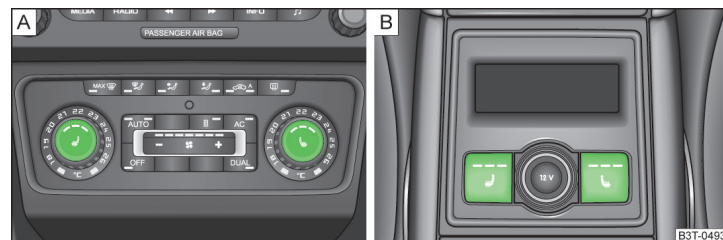

Fig. 71 Heating: Front seats/ rear seats
- › Press the controller in the area of the symbols and » [Fig. 71 - \[A\]](#)
- › Press the symbol button or » [Fig. 71 - \[B\]](#).